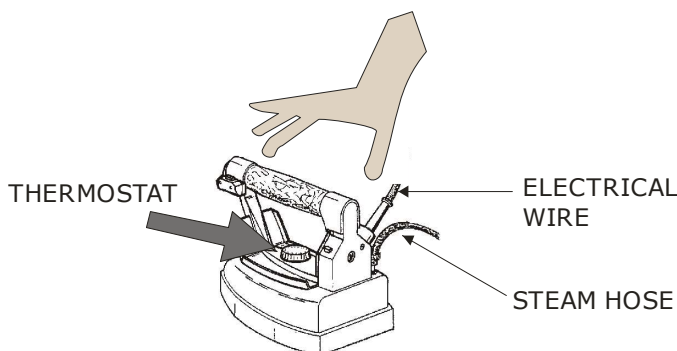

Fig. 3
4. For dry ironing it is possible to adjust the thermostat (**fig. 3**) on different positions according to the type of fabric (check garment label).
5. For steam ironing you should adjust the thermostat on "cotton" position (**fig. 3**) (suitable for all types of fabrics).
1. damage of iron cables (**fig. 3**),